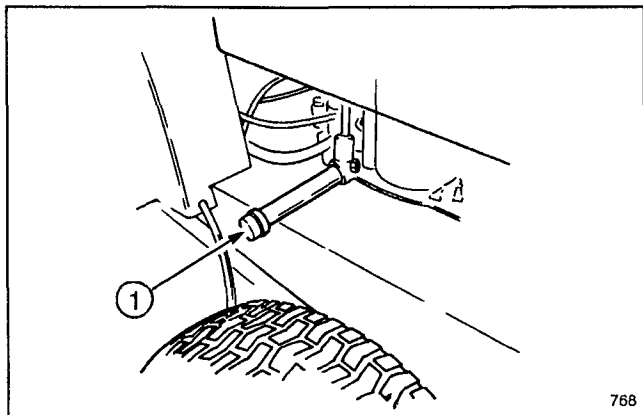

Figure 17
- B. Turn engine off and place drain pan below drain plug (Fig. 17). Remove drain cap. Allow all oil to flow into drain pan. Reinstall drain cap after oil stops flowing.